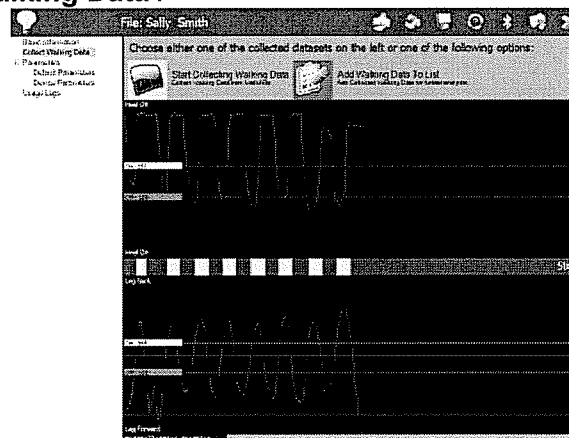

Figure 21 – Add Walking Data to List.
9. Click on the '**Add Walking Data to List**' button in order to proceed with the analysis of the data (Figure 21). Each walking trial for this client will be saved and labeled with a date and time, with the Associated Parameters listed underneath each trial. These files will be listed on the left side of the screen under '**Collect Walking Data**'.